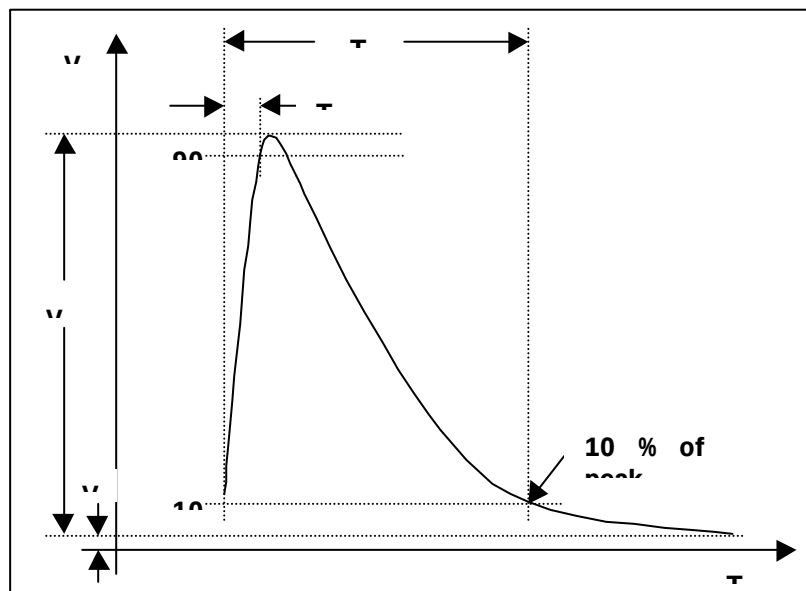

Figure 4 - Load Dump Pulse Test
The LoCate™ device shall be subjected to the waveform shown in Figure 4⁵. A total of ten (10) load dump pulses will be applied to the units at a rate of 1 pulse every 10 seconds. After completion of the test, the LoCate™ must pass a room temperature functional test.